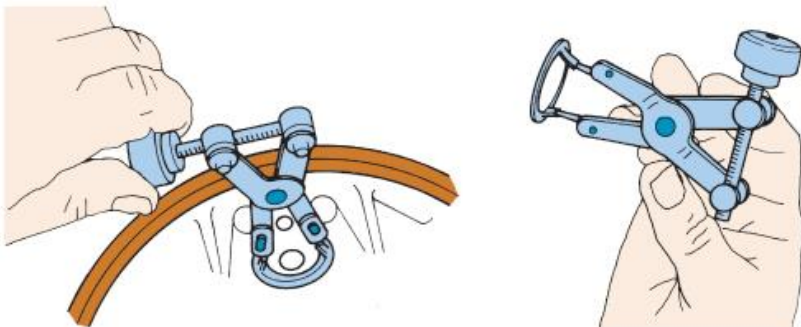

Figure 23. Many wheel cylinders are mounted using a special clip.
- Unbolt or remove the wheel cylinder retainer clip. Figure 23.